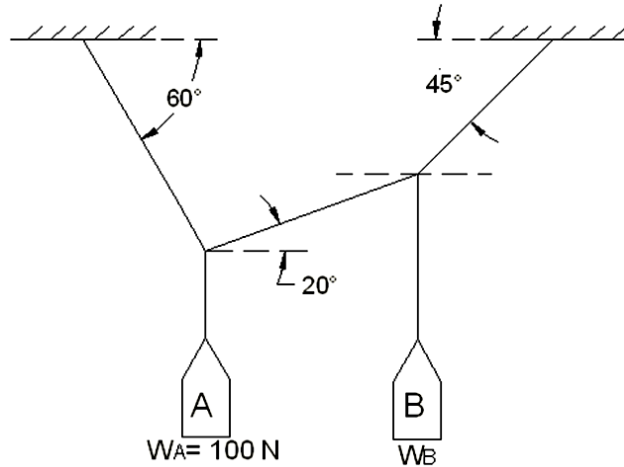

Fig.2 [ Q-2(b) ]
- (b) Two buckets are suspended by a flexible rope as shown in *Fig.2*. The weight of bucket *A* is  $100\text{ N}$ , if the system is in equilibrium, find the weight of bucket *B* and force in each part of the rope. **07**